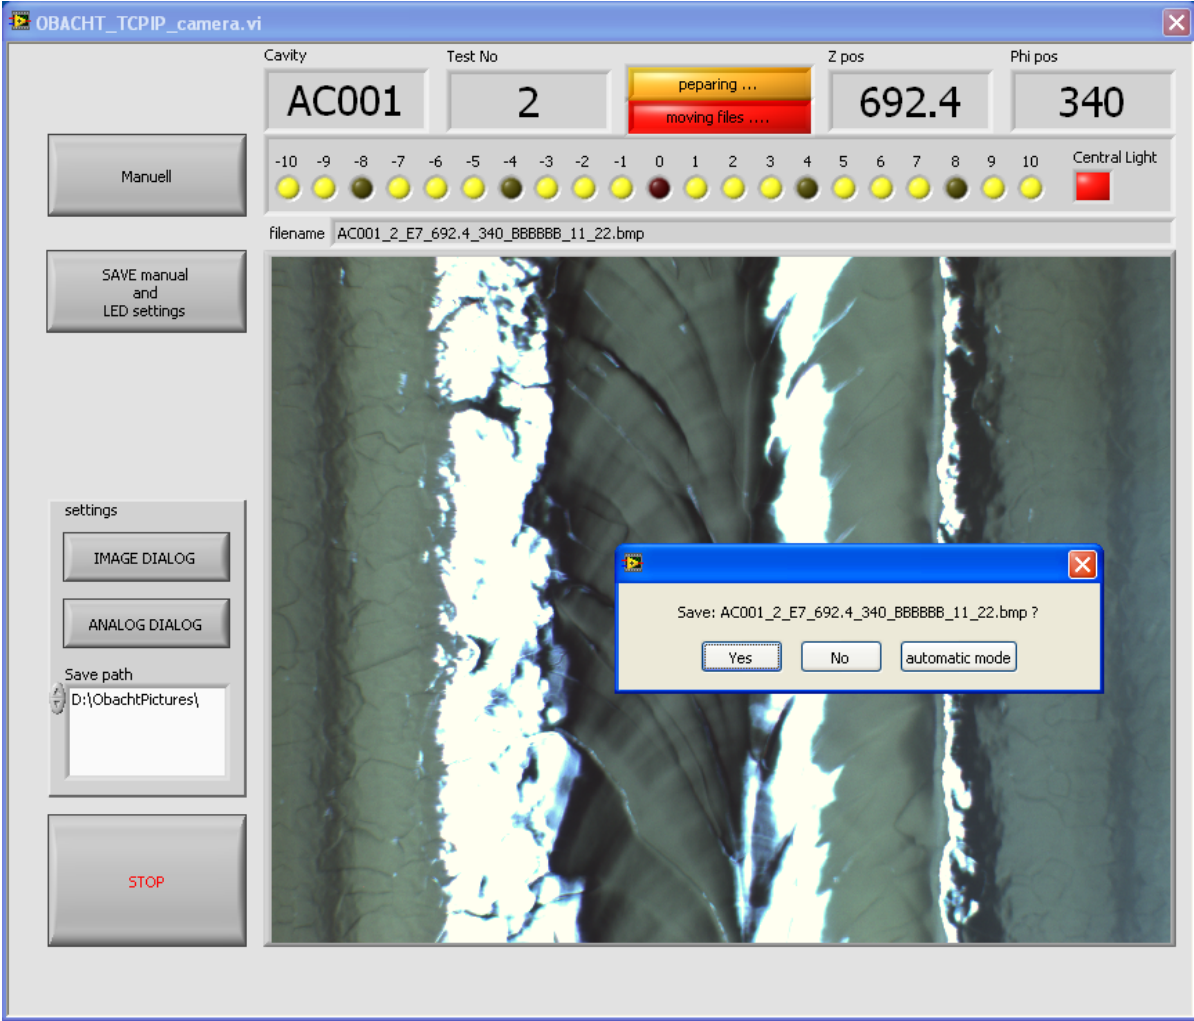

Figure 8: Screen shot of camera GUI with pop-up menu for picture saving
2. PC2L, camera GUI: saving of actual picture has to be approved. Included is also the possibility to log the actual position, in case of an eye-catching feature/defect in the picture. Hence, four buttons are given to chose as it can be seen in figure 8. In case a picture is conspicuous, the position is written into a table in the picture directory on afs (/afs/desy.de/group/fla/cavity/cavity_pictures). This table can then be used for a re-inspection of the cavity.